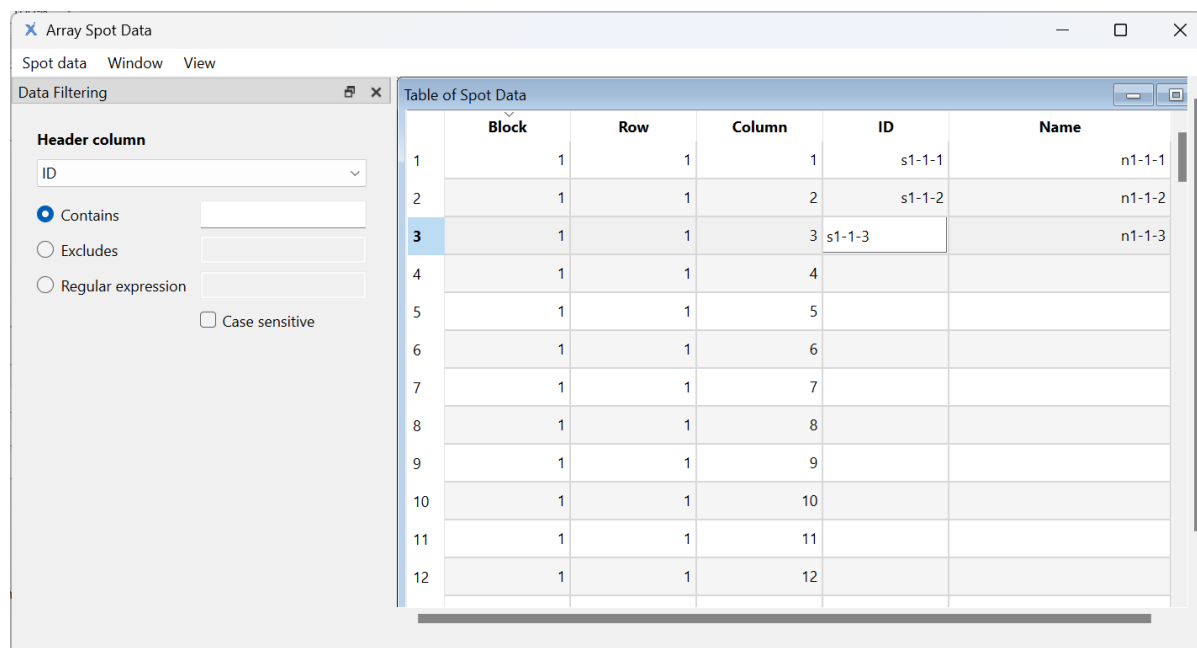

Figure 14. Table of Spot Data.
- Open *Arrays > Array File > Editing* and click *Edit*. The *Array Spot Data* window (Figure 14) displays one row for each spot.